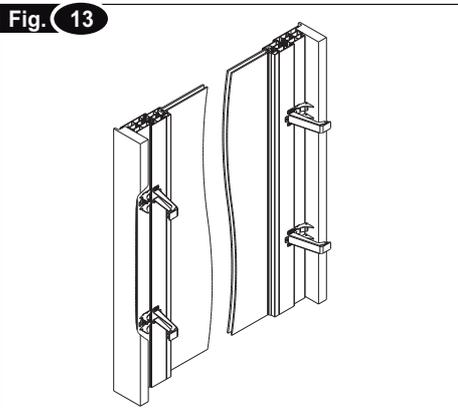

Fig. 14
- 6) Fig.14 - Close the two pairs of clamps **M2** partially with the screws and nut provided in the package;